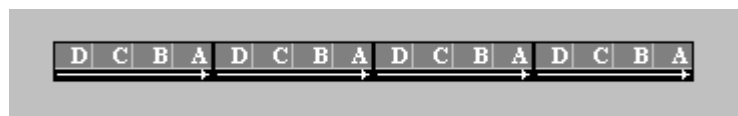

Fig. 4.25
- Click **YES** button – the fifth module is deleted – Fig. 4.25
Since the first part was with five modules we enter again the fifth module in Fig. 4.25.